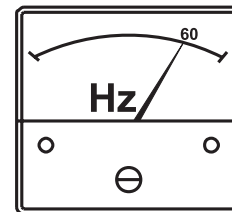

Figure 50. Frequency Meter
3. The generator's frequency meter (Figure 50) should be displaying the 60-cycle output frequency in **HERTZ**.